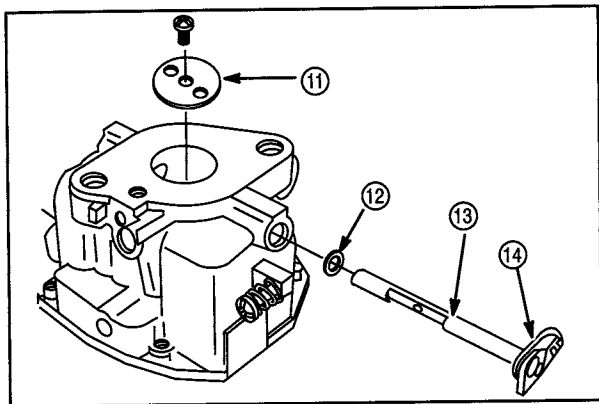

Fig. 82
8. The top and bottom edges of the throttle plate are beveled. Mark throttle plate (11), **Fig. 82** before removal to ensure reinstallation in the original position.
9. Remove throttle shaft (13) and spacer (14).
10. Remove throttle shaft seal (12).